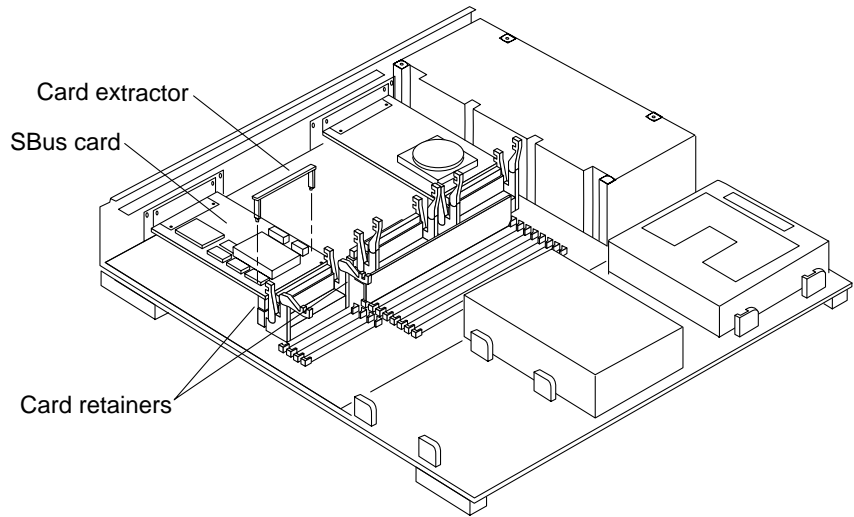

FIGURE 6-2 SBus Card—Card Retainers and Card Extractor
9. **Install the card extractor on the SBus card.** See FIGURE 6-2.